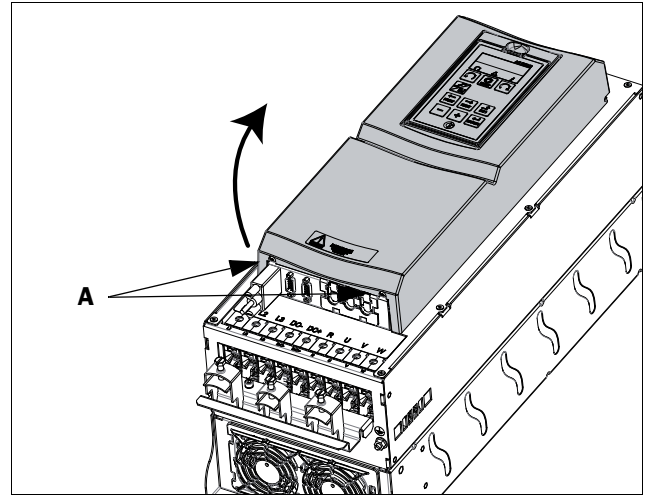

Fig. 35 Remove the front cover on frame size C2 - F2 and FA2 (principle drawing).
- Loosen the two screws A (see Fig. 35) at the bottom of the cover a couple of turns (you do not have to remove the screws).